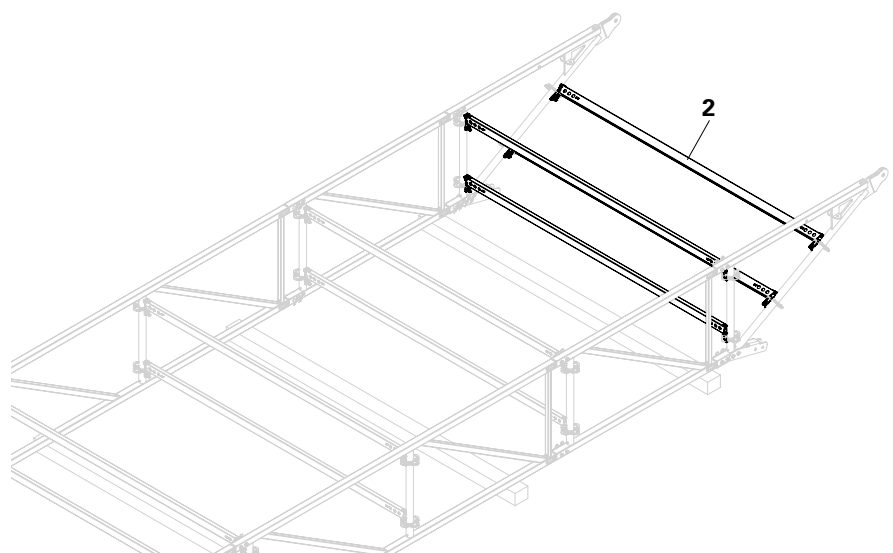

Fig. A1.10
5. Attach horizontal ledgers (2). (Fig. A1.10)
6. Securely fix all wedges using a hammer. (Fig. A1.10) → Horizontal ledgers are now secured.